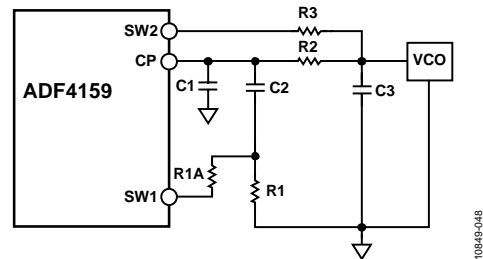

Figure 54. Fast Lock Loop Filter Topology 2
- Connect an extra resistor (R1A) directly from SW1 (see Figure 54). The extra resistor must be selected such that the parallel combination of an extra resistor and the damping resistor (R1) is reduced to ¼ of the original value of R1.